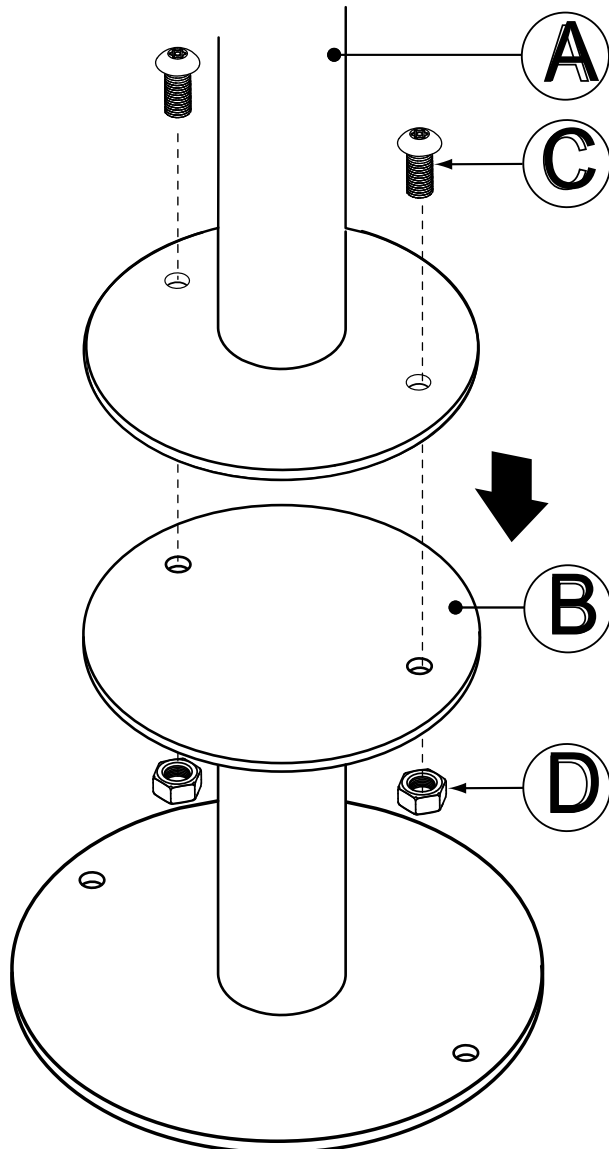

Figure 1.
2. Connect Extension Footer(B) to Lower Post(A) using (2) Bolts(C) and (2) Lock Nuts(D). See Figure 1.